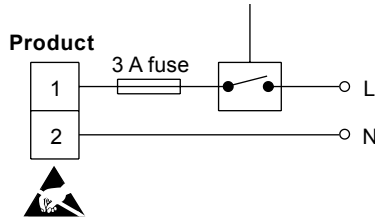

Fig. 13
3. Fuses should be fitted in all live conductors, see Figures 13 and 14.